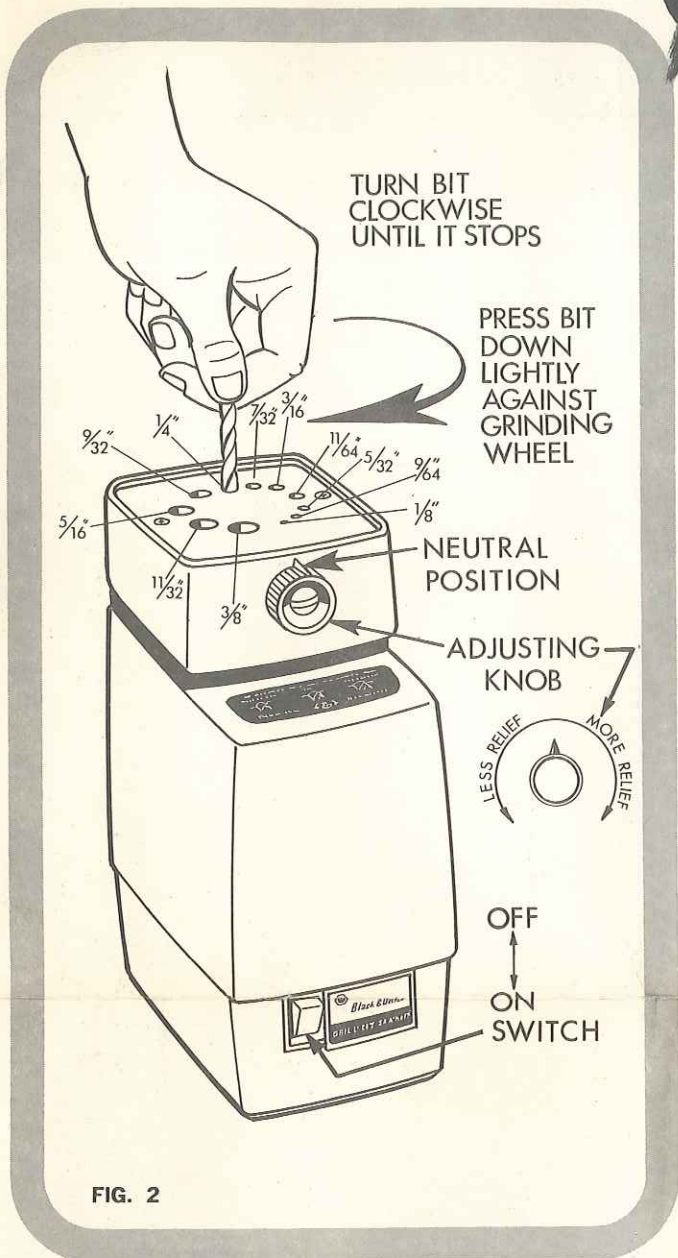
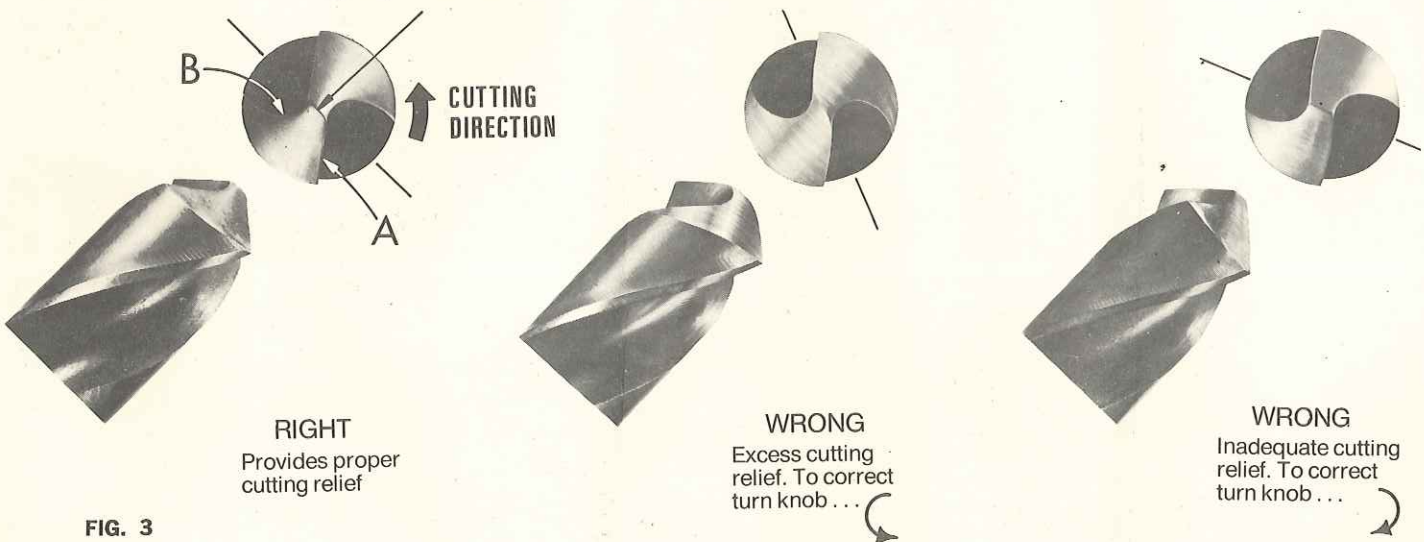

FIG. 2
FIG. 3
3. Rotate bit clockwise until rotation is stopped, see Figure 2, hold it steady in this position.
5. Sharpening time for each edge of the bit will range from about one to three seconds, depending upon the size of the bit. The smaller the bit, the quicker it will sharpen! Try to keep the sharpening time equal on both edges of the bit. Now push switch button down to turn motor "ON" for one (1), two (2), or three (3) seconds. Release switch button to turn motor "OFF", still holding bit against wheel. (The switch button is normally in the "OFF" position. It must be pushed down and held there to turn the motor "ON". Releasing the switch button turns the motor "OFF" instantly, but the grinding wheel will continue to rotate for a few seconds).
8. Examine bit for proper form, see Figure 3. Point must be in the center and bit must have proper cutting relief.
9. If bit is not to proper form, turn the adjusting knob slightly as shown in Figure 3 and repeat the sharpening process.